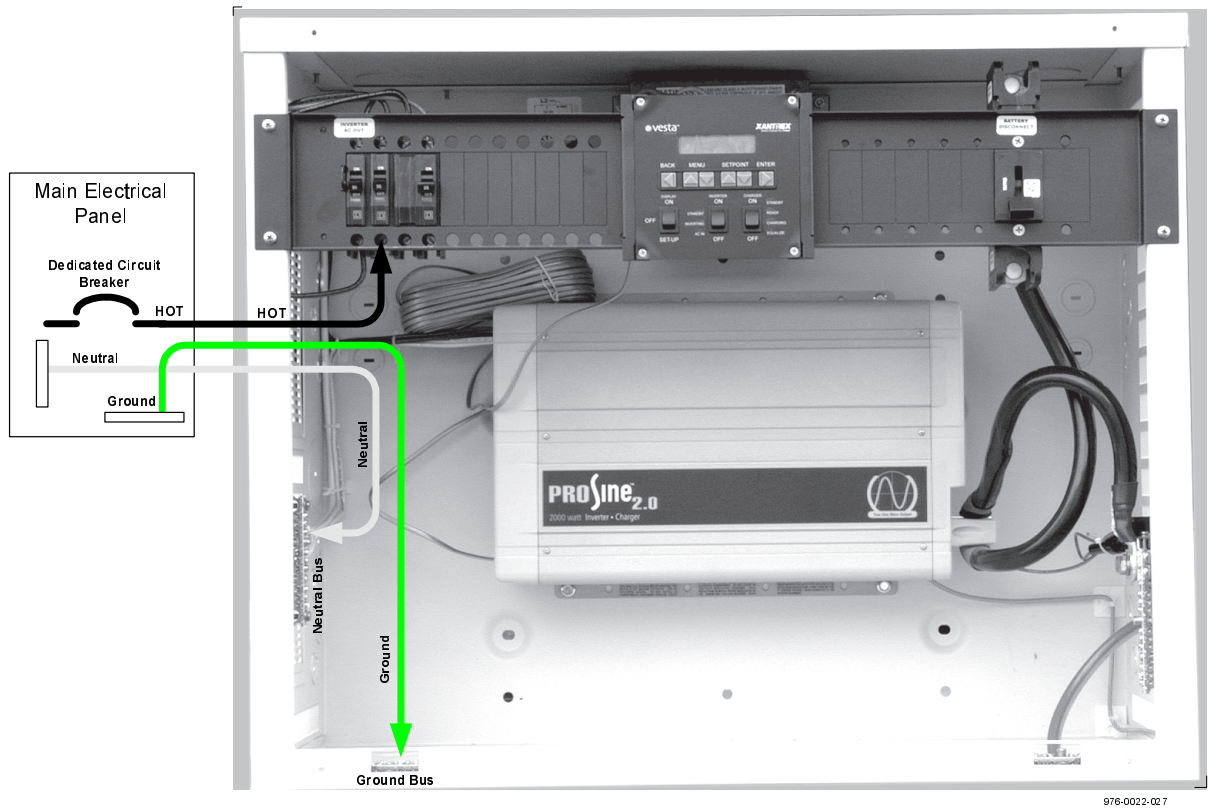

Figure 2-9
3. Connect the ground wire from the electrical panel to the GROUND BUS in the Power Module. Refer to Figure 2-9.
4. Connect the neutral wire from the electrical panel to the NEUTRAL BUS in the Power Module. Refer to Figure 2-9.
5. Connect the HOT wire from the main electrical panel to the *lower* terminal of the AC IN breaker. Refer to Figure 2-9.